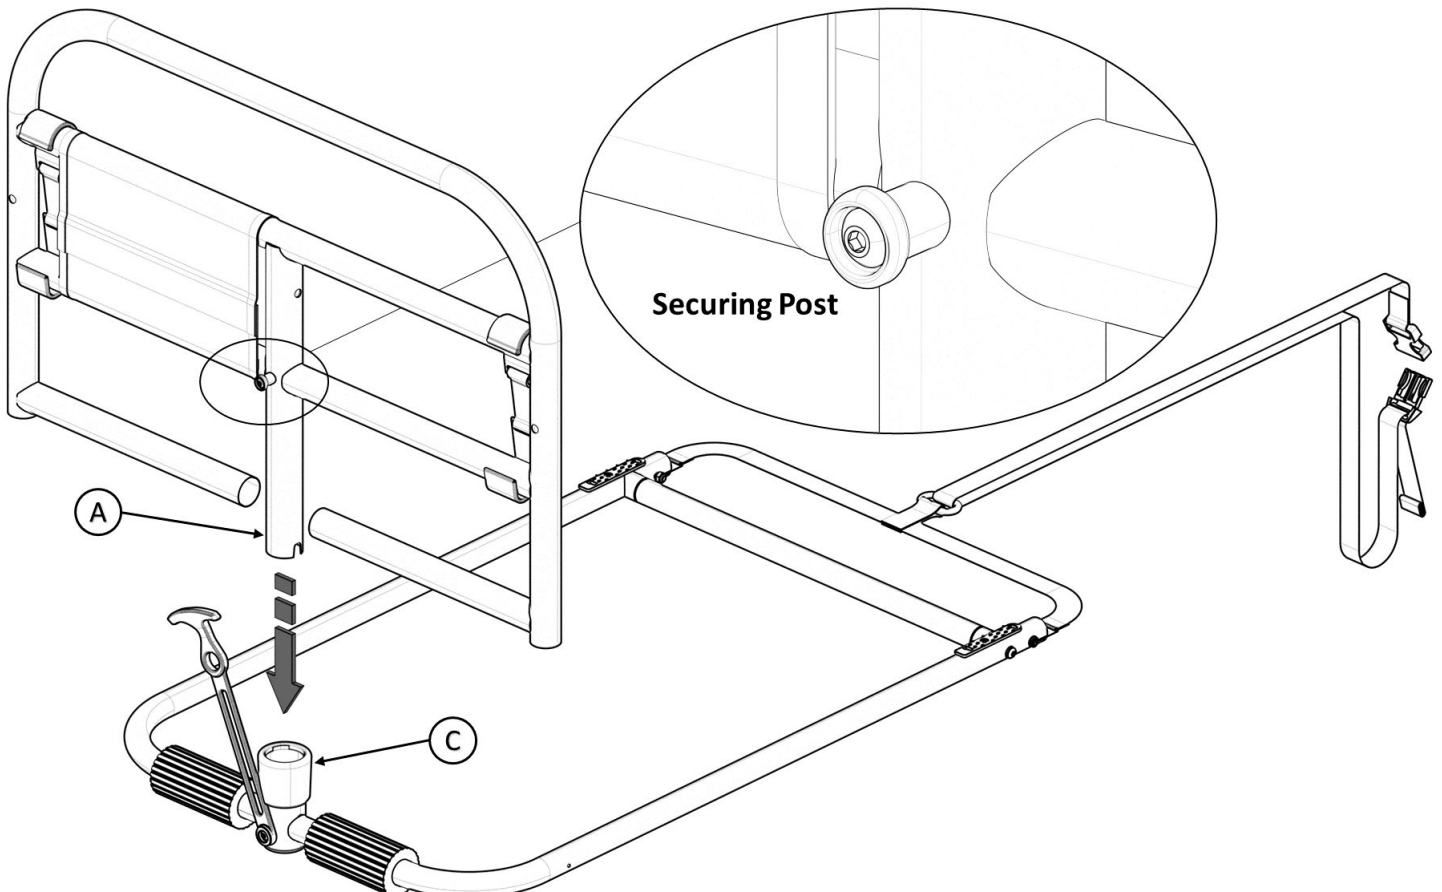

FIGURE 2
2. Insert **A** into **C** as shown in *FIGURE 2*. Make sure the **Securing Post** is facing out.